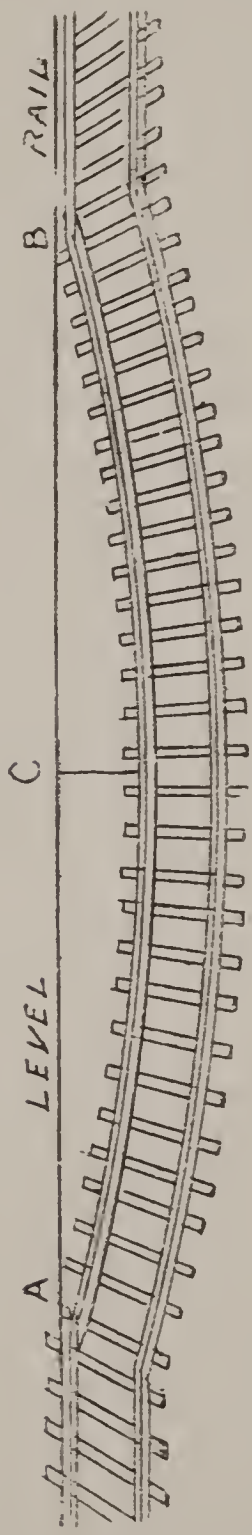

Fig. 25.
- 1, FALL TRACK WORK—2, Cleaning off the Right of Way—3, Raising up Sags in Track, Surface Fig. 25—4, Narrow Embankments—5, Haul Out Material from Cuts—6, To Remedy too wide an Opening at the Joints.
RULE:—Set two stakes, A and B, close to the track rails and level with their top surface at each end of the sag, as shown in Figure 25. Then set a third stake C at the middle of the sag and in line with A and B, and drive it down until the top of it is level with the tops of the outer two stakes. You can ascertain whether this is the case by sighting over A and B. Measure the height of stake C above the ground and multiply it by the distance in feet from A to B, and again multiply the product by fourteen or sixteen feet for the width of the embankment. This will give you the contents in cubic feet and dividing the whole number of cubic feet by fifty-four will be the number of cubic yards of dirt or ballast which will be required to surface up the sag. If the sag is deeper than twelve inches an allowance of one foot in width for each foot in depth should be made up for the side slopes. An allowance of about one-sixth of the depth below level in some cases should be made on the middle of light sags when surfacing up. This can best be done by leveling a sight board the proper height in the middle of the sag and sighting the track to it from one end, and from that point sighting the rails to where the sag runs out at the other end. A sag, which has only been raised level with the track on each side of it, will soon become low again in the middle unless made very solid.